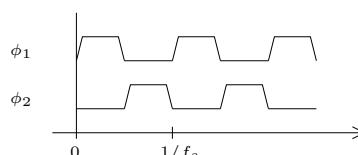

Figure 5: Sample and hold circuit
- Use the opamps in P2 and P3 (fully differential opamps designed earlier) in the sample hold circuit in Fig. 5. Use ideal switches with 1 k Ω on resistance. Use $f_s = 4$ MHz and $f_{in} = \{1/4, 9/4\}$ MHz (sinusoidal input with 1.6 Vppd¹ amplitude) and plot the output waveforms.